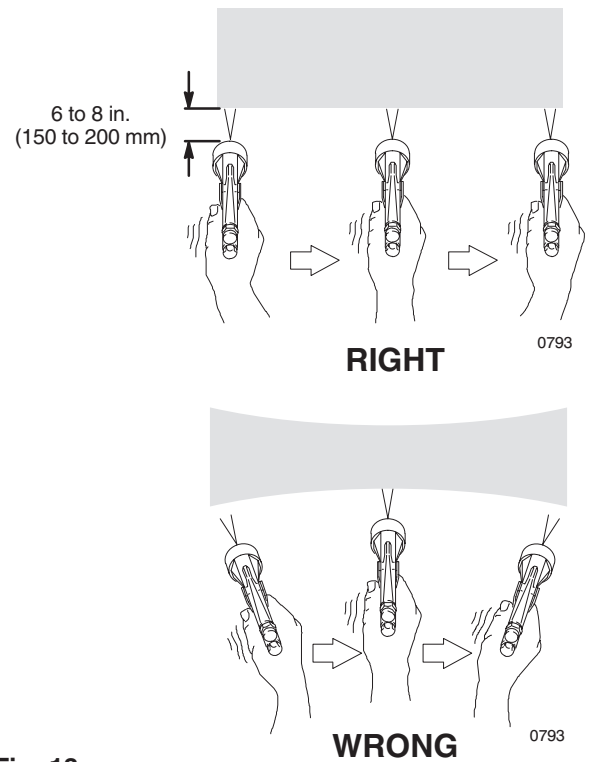

Fig. 13
- Keep gun perpendicular to surface and maintain consistent distance of approximately 6 to 8 inches (150 to 200 mm) from object being sprayed. See Fig. 13.